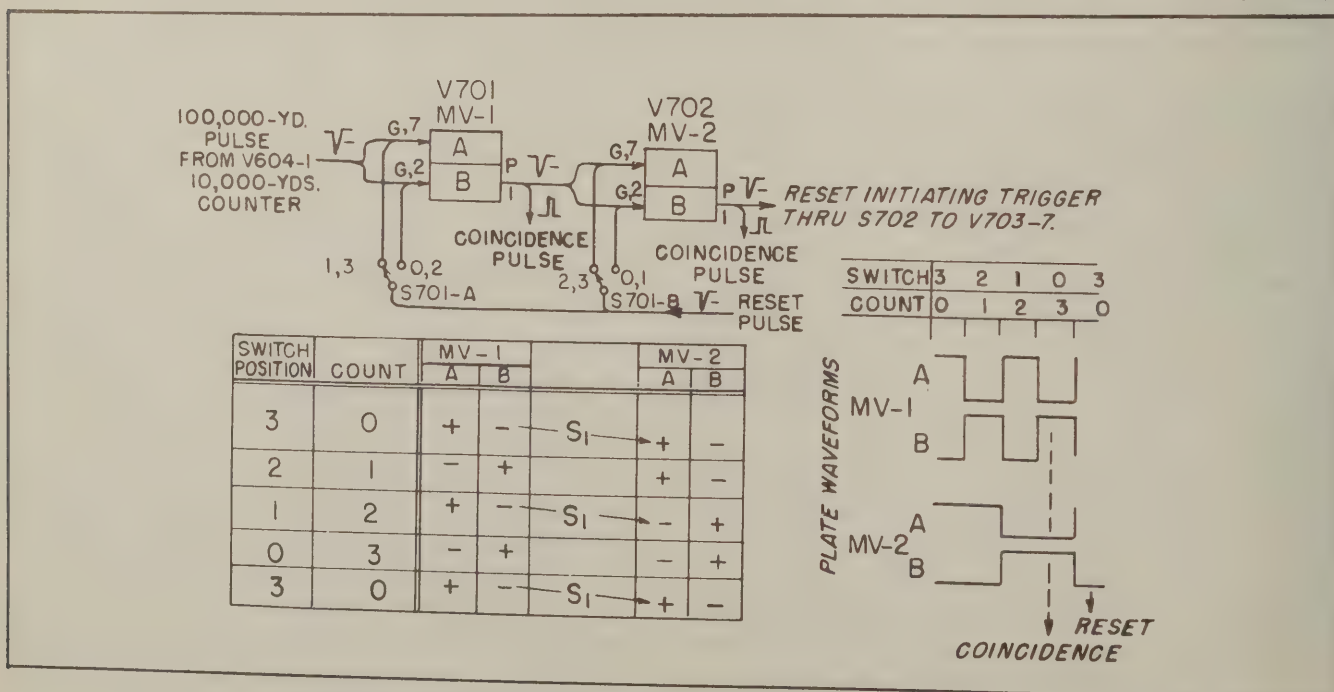

Figure 2-4. Low speed, 100,000-yard Counter Operation (E701)
The two binary stages of the low-speed counter E701 are pre-set to their count by the 100,000-YARD dial switch S701. Refer to figure 2-4. If S701 is set to 3 (corresponding to a count of zero), then E701 will require three input pulses from E601 to bring the binary stages of E701 to their terminal count for coincidence. These three input pulses will be the 547th, 1547th, and 2547th 100-yard input pulses received by E401, if the other range switches S401, S501, S601 remain set at 6, 4, 5 respectively. Each one of these
**a. LOW-SPEED COUNTER CIRCUIT.**—The two male boards of the low-speed counter circuit are identical to those used on the 1000-yards counter E501 and on the 10,000-yards counter E601. Each board is a binary counter which operates as previously described in paragraph 1c of this section. However, only two counter stages are used, so that the low-speed counter circuit has a counting capacity of four between terminal counts. The first stage V701 is triggered by the 100,000-yard negative output pulse of E601. When the plate pin 1 of V701-B swings negative, at the low-speed counter count of 0 or 2 (see figure 2-4), it triggers the second counter stage V702 on male board E702. When the plate pin 1 of V702-B swings negative, at the count of 0, it triggers the reset circuit through test switch S702 (in OPERATE position) to prepare the counter stages for the next counting cycle. The two binary counters of E701 are then reset through contacts of switch S701, which channels the negative reset pulse to the selected grids of V701 and V702.